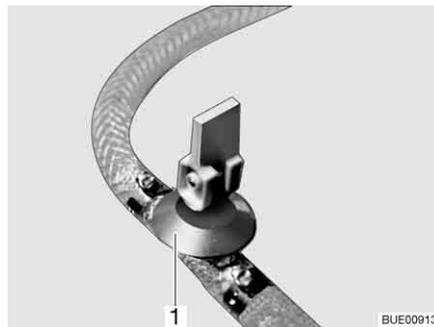

Fig. 176 Drain cock
- Close the drain cock(s). Position the rocking lever (Fig. 176,1) horizontally.
- Open drain cock(s) (Fig. 176). To do so, set the rocking lever (Fig. 176,1) in a vertical position. The boiler is drained to the outside.